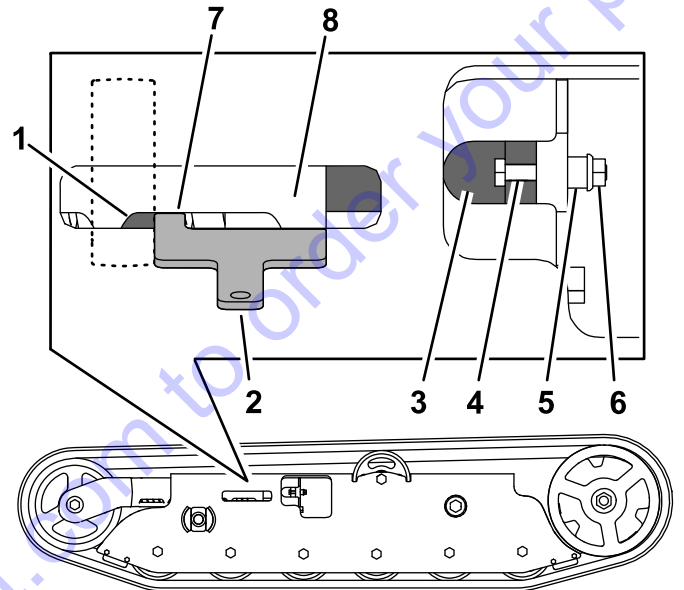
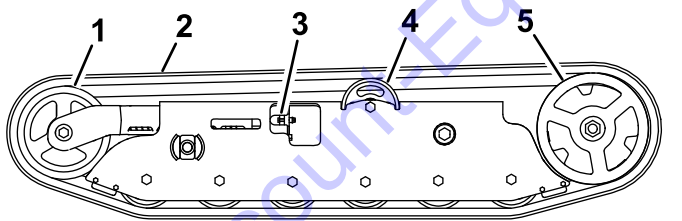

Figure 38
Figure 39
If you place the tab of the tensioning tool along the rear edge of the tension nut, the other end of the tensioning tool should align with the edge of the tension arm as shown in Figure 38. If the distance is not correct, adjust the track tension using the following procedure:
6. Remove the bolt (1/4 x 1-5/8 inches), spacer, and nut (Figure 38).
7. Turn the tensioning bolt to adjust the distance between the tension nut and the end tangent of the tension tube until the distance is correct, as shown in Figure 38.
8. Align the closest notch in the tensioning bolt to the bolt hole and secure the tensioning bolt with the bolt (1/4 x 1-5/8 inches), spacer, and nut (Figure 38).
9. Beginning at the drive sprocket, coil the new track around the sprocket, ensuring that the lugs on the track fit between the spacers on the sprocket (Figure 39).
10. Push the track under the lugs and between the road wheels (Figure 39).
5. Release the drive tension by turning the tensioning screw clockwise (Figure 38 and Figure 39).
7. When the track is off the front wheel, remove it from the drive sprocket and road wheels (Figure 39).